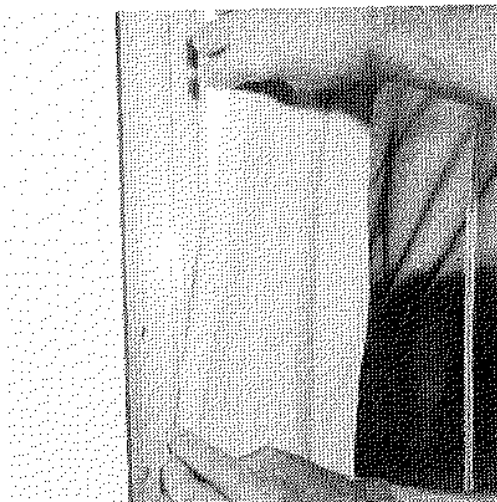

Fig. 7
9. Insert canvas by folding the hard edge of tent over 180° and inserting this portion into channel of screen door, starting at the bottom. This assures the best possible fit. Fig. 7